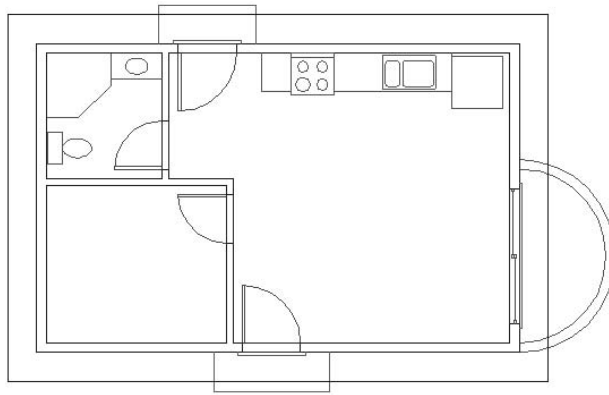

FIGURE 6.27: The eaves lines after filleting
7. Start the Fillet command again, and keep picking pairs of lines until all the corners are filleted and the result is a rectangle that represents the eaves of the roof surrounding the building, offset 1'-6" from the outside exterior walls (see Figure 6.27).